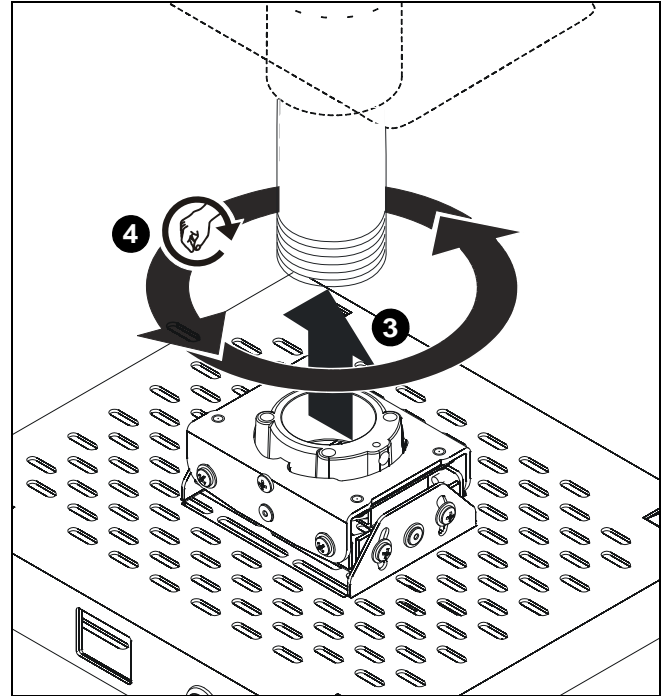

Figure 2
3. Align MSP-CCS2 outer sleeve with end of NTP pipe. (See Figure 2)
4. Thread MSP-CCS2 sleeve up onto pipe by turning counterclockwise until hand tight. (See Figure 2)